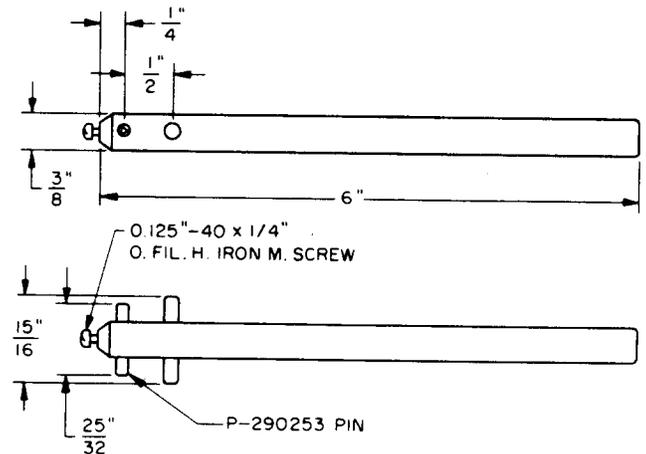

Fig. 1—203 Index Wheel Holder Tool
2.01 203: The 203 index wheel holder tool (Fig. 1) is used on the A- and B-type sequence switches to prevent the cam shaft from turning when a wrench is used on the cam clamping nut of an assembled cam shaft.